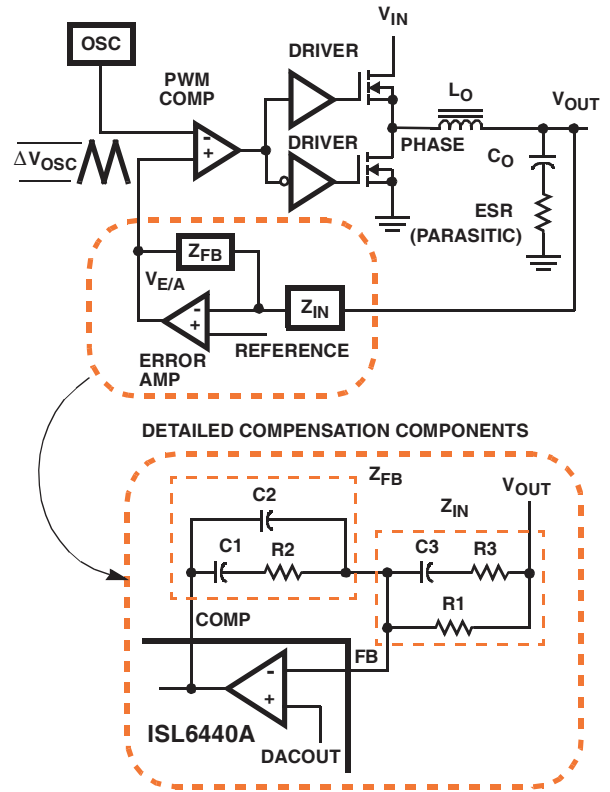
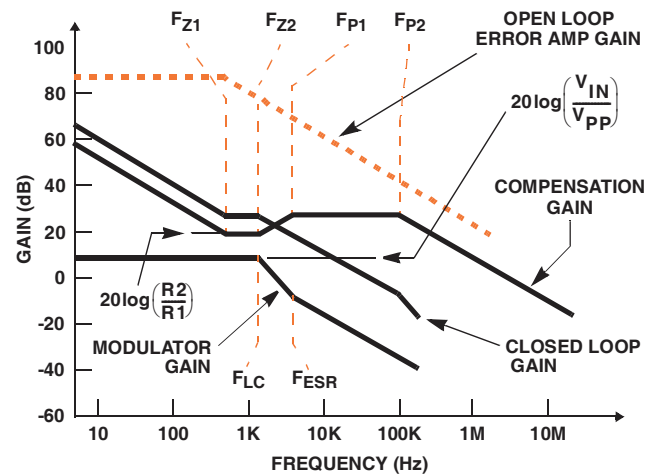

FIGURE 8. VOLTAGE-MODE BUCK CONVERTER COMPENSATION DESIGN
FIGURE 9. ASYMPTOTIC BODE PLOT OF CONVERTER GAIN
Figure 8 highlights the voltage-mode control loop for a synchronous rectified buck converter. The output voltage ( $V_{OUT}$ ) is regulated to the Reference voltage level. The reference voltage level is the DAC output voltage (DACOUT). The error amplifier (Error Amp) output ( $V_{E/A}$ ) is compared with the oscillator (OSC) triangular wave to provide a pulse-width modulated (PWM) wave with an amplitude of  $V_{IN}$  at the PHASE node. The PWM wave is smoothed by the output filter ( $L_O$  and  $C_O$ ).
Figure 9 shows an asymptotic plot of the DC-DC converter's gain vs. frequency. The actual modulator gain has a high gain peak dependent on the quality factor (Q) of the output filter, which is not shown in Figure 8. Using the above guidelines should yield a compensation gain similar to the curve plotted. Check the compensation gain at  $F_{P2}$  with the capabilities of the error amplifier. The closed loop gain is constructed on the log-log graph of Figure 9 by adding the modulator gain (in dB) to the compensation gain (in dB). This is equivalent to multiplying the modulator transfer function to the compensation transfer function and plotting the gain.